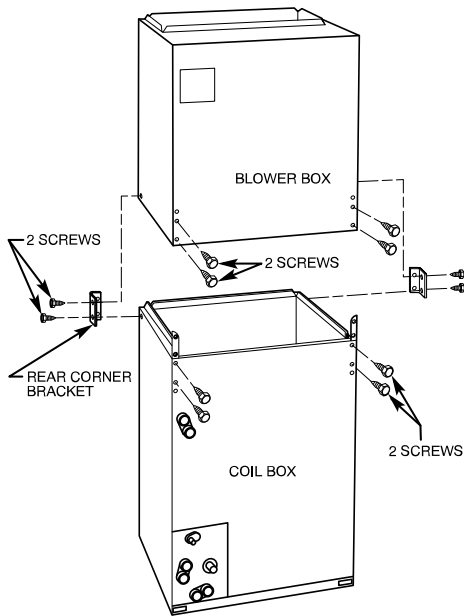

Fig. 2 – Removal of Brackets on Modular Unit
Modular units (3½, 4, and 5 ton) can be disassembled and components moved separately to the installation area for reassembly. This process accommodates small scuttle holes and limiting entrances to installation sites (Fig. 2). To disassemble the unit, disconnect the 4-pin sensor wire harness at the dissipation board and undo the wire routing in the cabinet. Remove the rear corner brackets by removing 2 screws which secure the brackets. Remove either 2 screws in each front corner of the coil box, or 2 screws in the blower box. **Do not** remove all 4 screws in each corner. Sections may now be separated by lifting the top section from the lower section.
- b. If fan coil is against wall, secure fan coil to wall stud using 1/8" (3 mm) thick right-angle brackets. Attach brackets to fan coil using no. 10 self-tapping screws and to wall stud using 5/16" lag screws (Fig. 2).